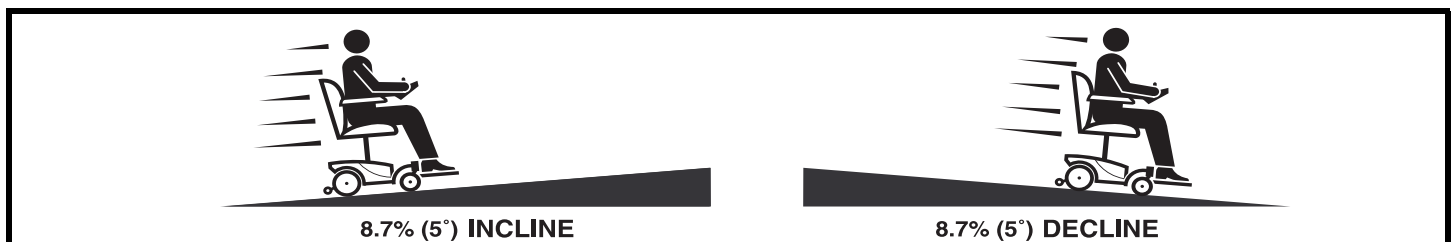

Figure 1. Maximum Safe Angle (Ascending and Descending)
**WARNING! Even though your Go-Chair is capable of climbing slopes greater than those illustrated in figure 1, do not, under any circumstances, exceed the incline guidelines or any other specifications presented in this manual. Doing so could cause instability in your Go-Chair.**
Pride recommends that the maximum slope of an incline you attempt to safely ascend or descend on your Go-Chair does not exceed 8.7% (5°). See figure 1.